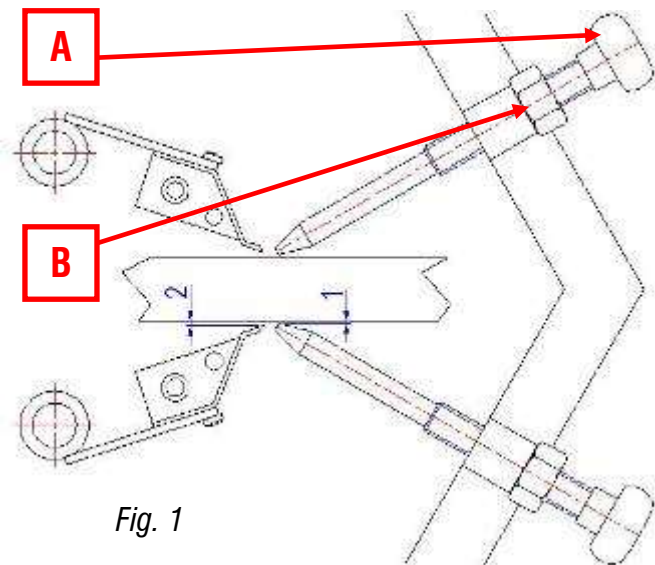

Fig. 1
**A space of 1 mm minimum is required between the wooden borders and the guides, on each side of the frame (fig. 1 page 16).**